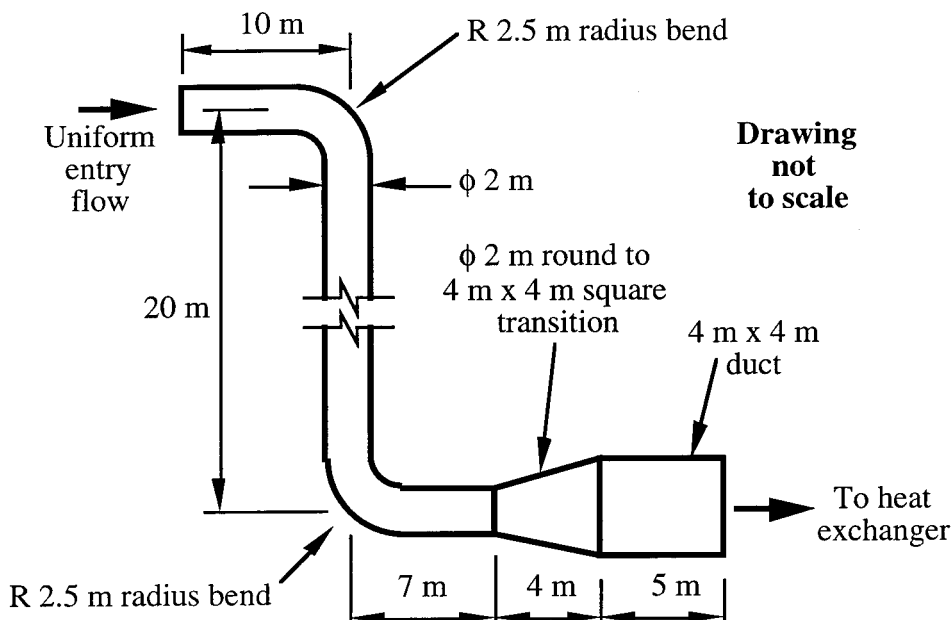

Figure 4. Heat exchanger supply pipe.
b) You are asked by a senior manager of a petrochemical company to design a pipe system to carry air at  $500^\circ\text{C}$  to a heat exchanger along a 2.0 m diameter pipe. The exit of the pipe joins a 4 m x 4 m square duct. The area averaged velocity in the 2.0 m diameter pipe is approximately 10 m/s. The design shown in Figure 4 has been proposed by the company. The velocity distribution of the flow entering the pipe is expected to be uniform (ie. essentially constant velocity over the entire cross section). The company requires the velocity profile leaving the pipe at B to be uniform (ie. constant velocity) to within  $\pm 10\%$  and the boundary layers to be thin.